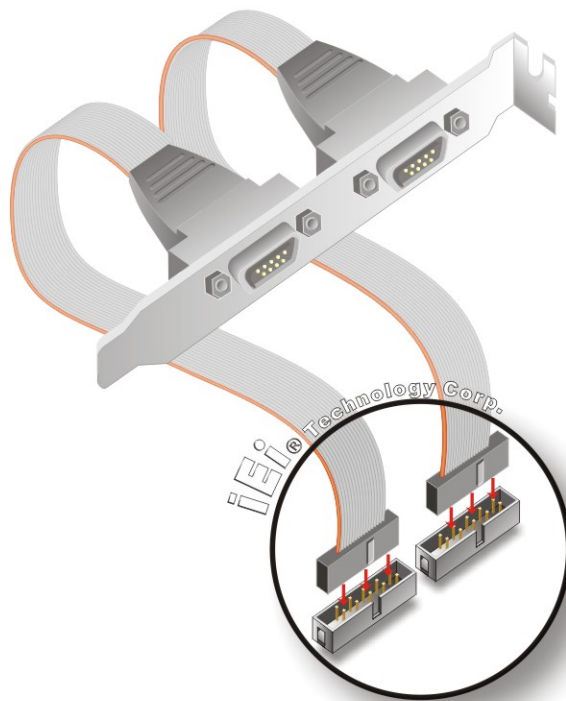

Figure 5-14: Dual RS-232 Cable Installation
Step 2: **Insert the cable connector.** Insert the connectors into the serial port box headers. See **Figure 5-14**. A key on the front of the cable connectors ensures the connectors can only be installed in one direction.